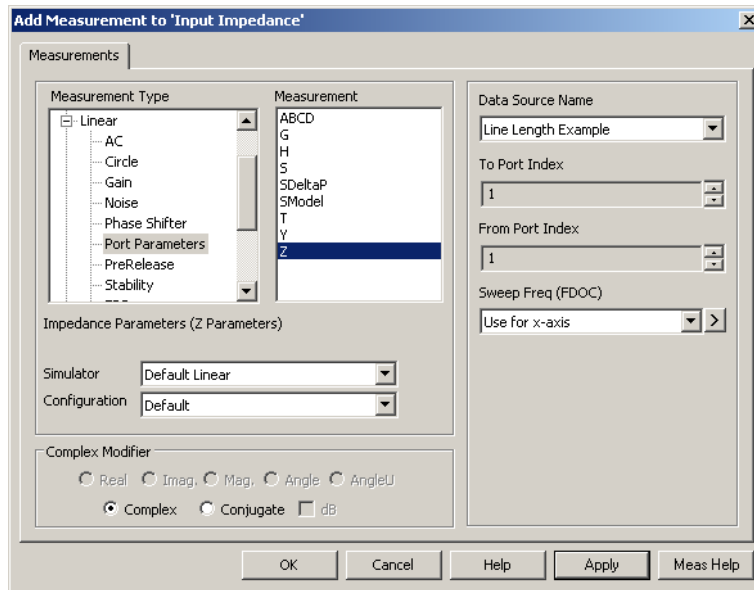

Figure 4.4: Chart 2 : Add Measurement Dialogue Box (Input Impedance)
- Change your measurement dialogue box to match figure 4.4.